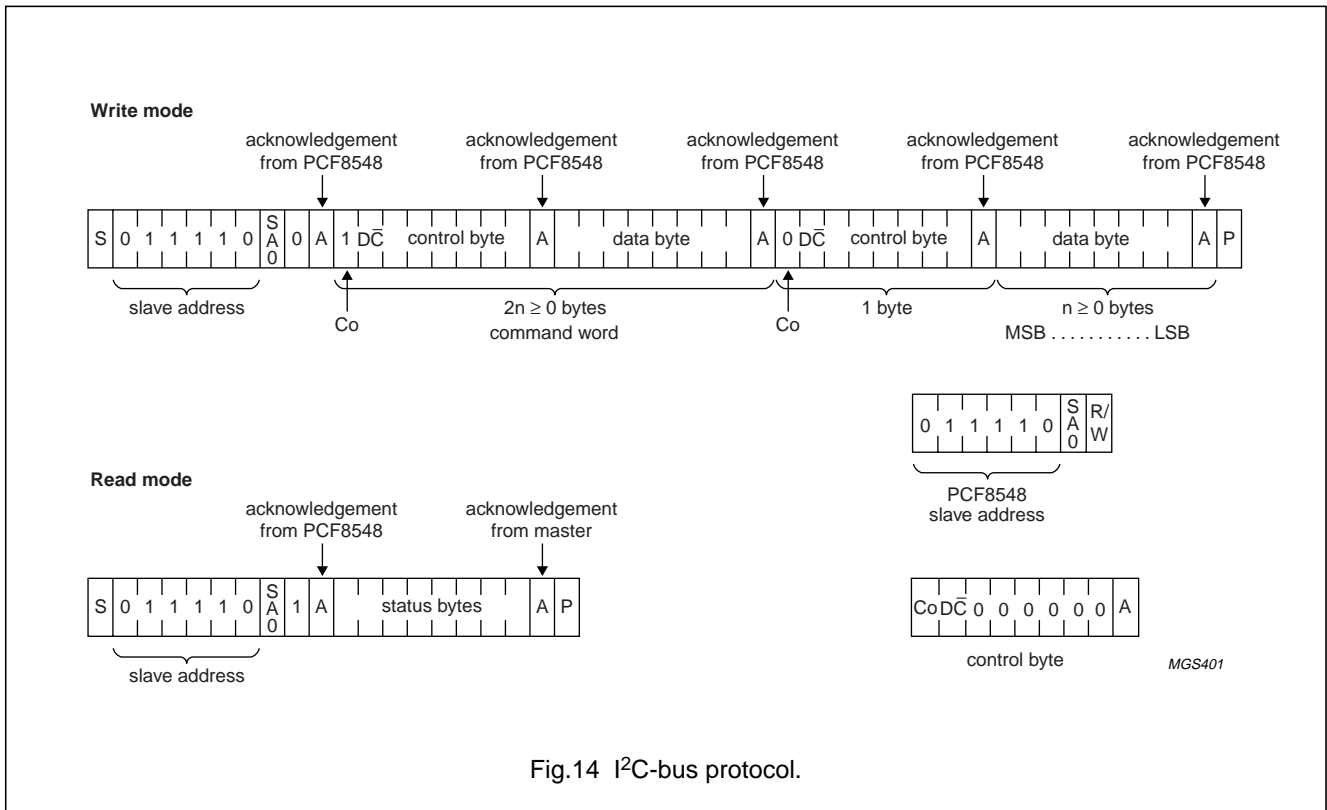

Fig.14 I2C-bus protocol.
The I2C-bus protocol is illustrated in Fig.14.
The sequence is initiated with a START condition (S) from the I2C-bus master which is followed by the slave address. All slaves with the corresponding address acknowledge in parallel, all the others will ignore the I2C-bus transfer. After acknowledgement, one or more command words follow which define the status of the addressed slaves. A command word consists of a control byte, which defines Co and D/C, plus a data byte (see Fig.14 and Table 1).